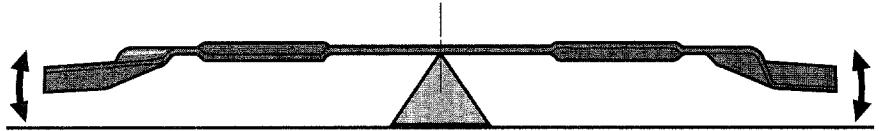

Figure 5-18: Balance blade (all models).
D. To make sure that the blade is properly balanced, place blade on a rounded pencil or pen (or other pivot) under center hole. Hold blade parallel to ground. See Figure 5-18. If blade is unbalanced, the heavier side will lean downward.